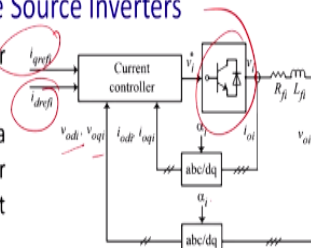

Fig.5: current-controlled voltage source inverter block diagram
- The current-controlled voltage source inverter (CCVSI)-based DG is shown in Fig.5.